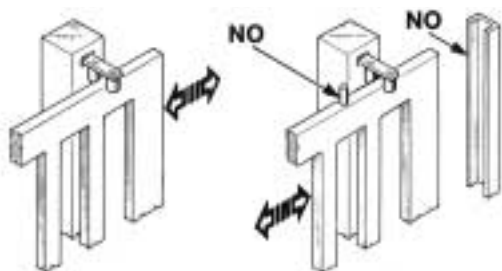

Fig. 3
Gate columns shall have anti-derailment guides on their top (Fig. 3), to avoid the unintentional gate release.
N.B.: Eliminate those mechanical stops of the kind described by figure 3. No mechanical stop shall be on top of the gate, since mechanical stops are not safe enough.